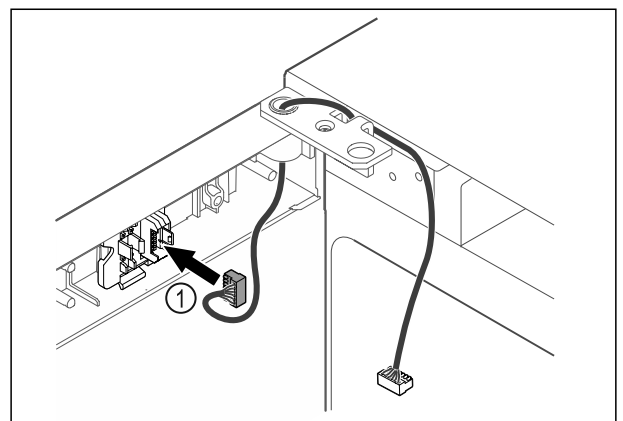

Fig. 48
- Put the plug *Fig. 48 (1)* in the plug holder.